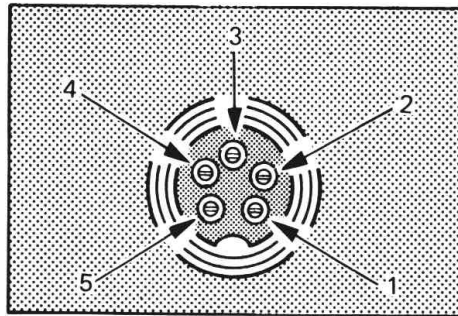

Fig. 4 Microphone plug pin numbers viewed from rear of pin receptacle.
5. The wires must now be soldered to the pins as indicated in the above wiring tables. If a vise or clamping tool is available it should be used to hold the pin receptacle body during the soldering operation, so that both hands are free to perform the soldering. If a vise or clamping tool is not available, the pin receptacle body can be held in a stationary position by inserting it into the microphone jack of the front panel. The numbers of the pins of the microphone plug are shown in Fig 4, as viewed from the back of the plug. Before soldering the wire to the pins, pre-tin the wire receptacle of each pin of the plug.